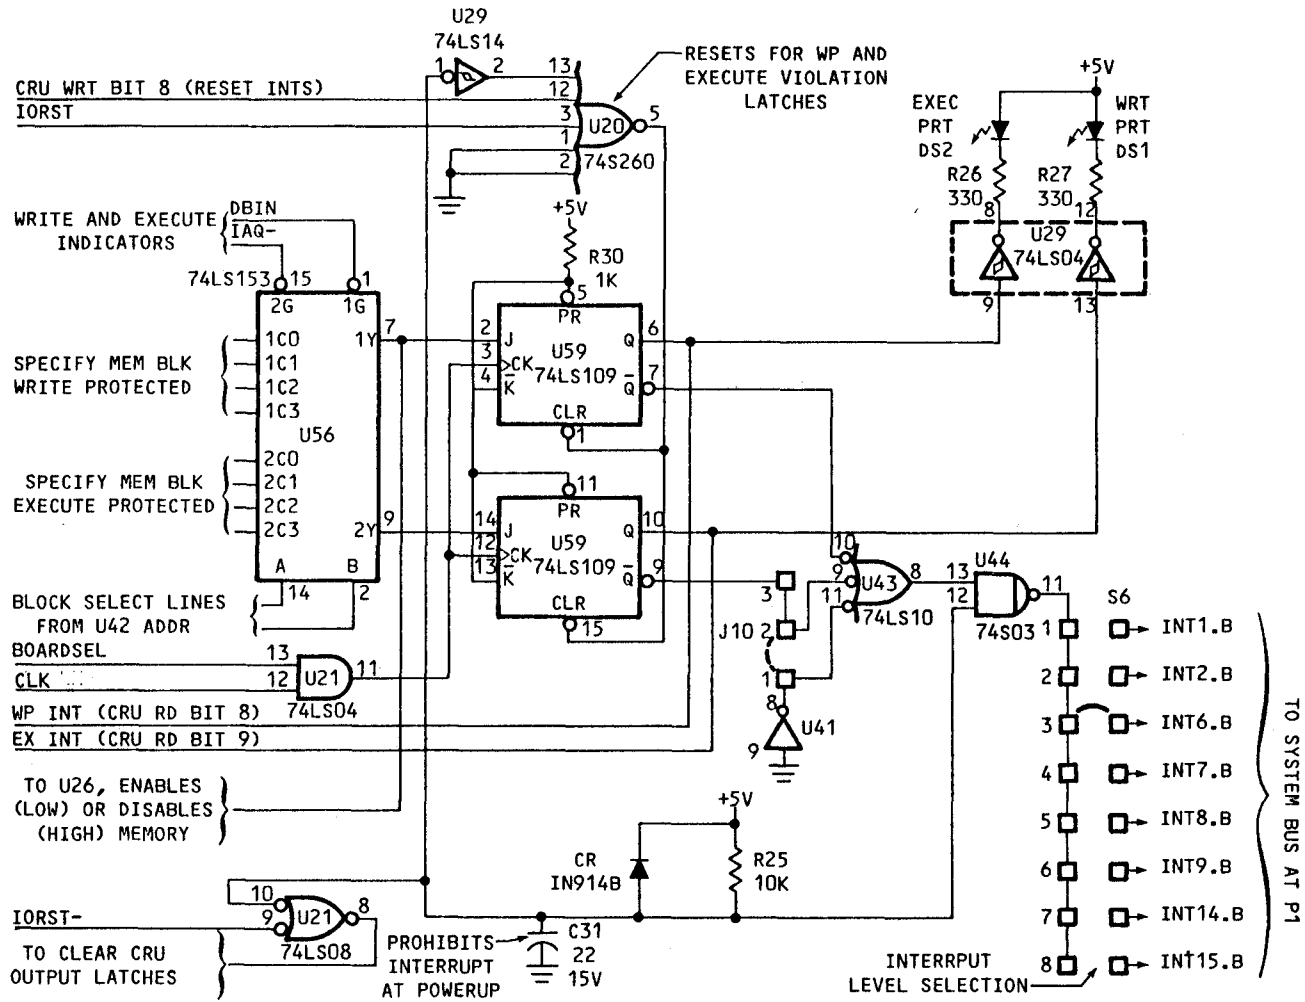

FIGURE 4-7. INTERRUPT LOGIC
The inputs from these U57 gates go to the 1C0 to 1C3 inputs of the multiplexer at U56. These four inputs are the write protect status for BLK0 to BLK3 respectively. When the U56 multiplexer is enabled by DBIN low (write cycle), address inputs A and B select the block (1Cx input). If a one is at the 1Cx input, a one at the 1Y output goes to a J-K flip-flop where it is latched to drive the interrupt circuitry. See Figure 4-7.
- Bit 8, if a zero, clears the two 74LS109 J-K flip-flops (U59) whose latched Q outputs reflect a write-protect or execute-protect violation. This is shown at the top of Figure 4-7. These Q outputs can be read at CRU bits 8 and 9 to check for violations. Resetting these flip-flops will turn off the write- and execute-protect violation LEDs by bringing high the output of the inverters at U29-8 and -12 which go to the ground side of the LEDs. Clearing these flip-flops will also unlatch the interrupt request to OR gate U43. After being cleared, toggle this bit by writing a one to it; this will enable the flip-flop to make a later state change should a violation occur.
The interrupt circuitry is shown in Figure 4-7. Interrupts can be caused by an attempt to write to a part of memory that has been designated as write-protected or by trying to retrieve an instruction from a part of memory that has been designated as execute protected. Memory protection can be designated via the CRU as explained in sections 3.4.1 and 3.4.2.
Interrupt conditions are checked according to DBIN and IAQ-, both shown in the top left of Figure 4-7. When a memory write cycle is initiated by the CPU, DBIN activates the memory write protect area of the multiplexer at U56. The block select input lines A and B to the multiplexer select the write-protect CRU bit at 1C0 to 1C3 which reflects the write-protect status of each block as selected. The output at 1Y is latched at a J-K flip-flop on U59. If an interrupt is requested, the Q- output supplies the enabling low output to the three-input NAND gate at U43 (other NAND gate inputs are the execute-protect interrupt and a one from an inverter at U41). The high output from this NAND gate enables the two-input NAND gate at U44 (one side held high by Vcc) with its active-low output going to the active-low interrupt outputs; this is routed to the desired interrupt level via jumper platform S6.